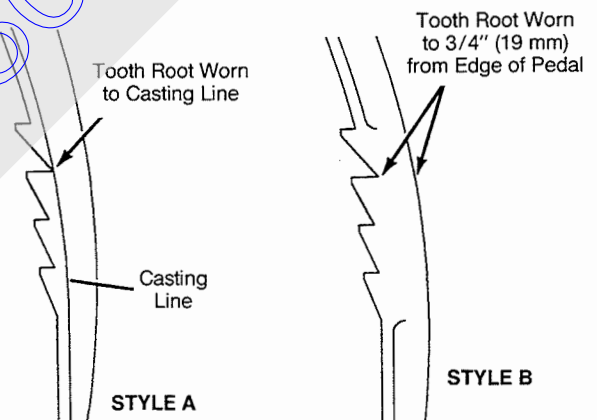

FIGURE 4
Tooth Root Wear (Figure 4)
- Tooth root is worn to casting line in pedal tongue for Pedal Style A, Figure 4.
- Tooth root is worn to less than 3/4 in. (19 mm) from front edge of pedal tongue for Pedal Style B, Figure 4.